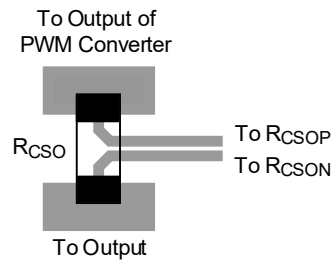

Figure 6. Kelvin Connections for the Rcs0
- The paths of R_{CSOP} and R_{CSON} must be directly connected to the terminals of current-sense resistor (R_{CSO}) using Kelvin connections as shown in the layout shown in Figure 6.